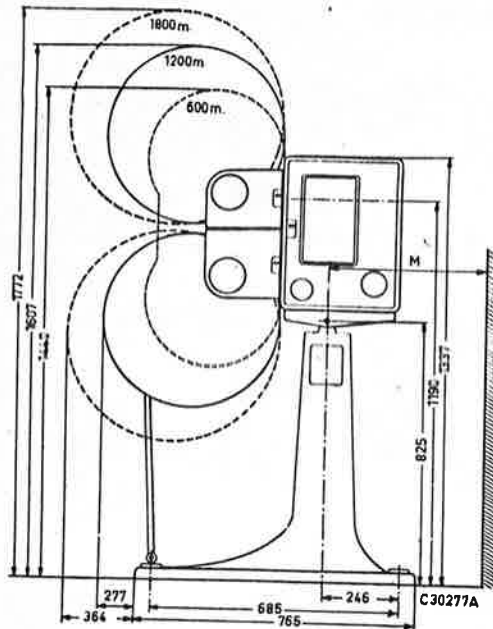

Fig.1
- Fig. 1 Diagram in sketch projector on base with 600 m, 1200 m, 1800 m spool box.